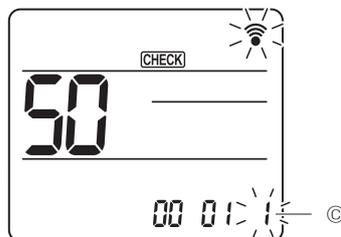

Fig. 7-20
- ④ Selecting the setting number
Use the <math>\downarrow</math> button to change the Setting number ③. (Fig. 7-20)